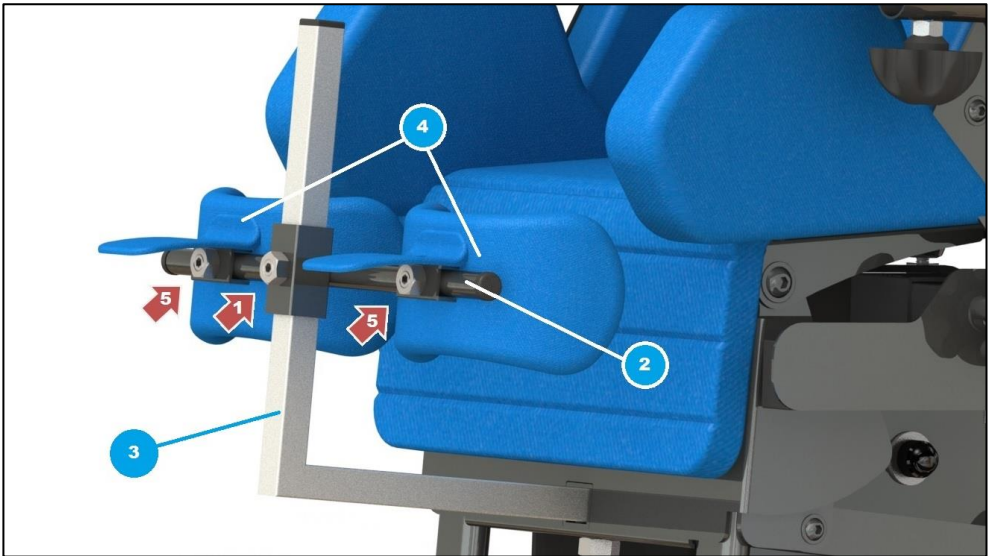

Fig. 9 Adjusting the kneepads
Adjusting the angle of the kneepad position and left-right position is undergoing by moving and rotating pads of the kneepad (4) on the kneepad's bar (2) fig 9. To make an adjustment of the kneepad angle and left-right position, you should loosen the knob 5 (fig 9), set the kneepad's pad into required position and then tighten the knob 5. Adjustment is made separately for both left and right kneepad's pad.